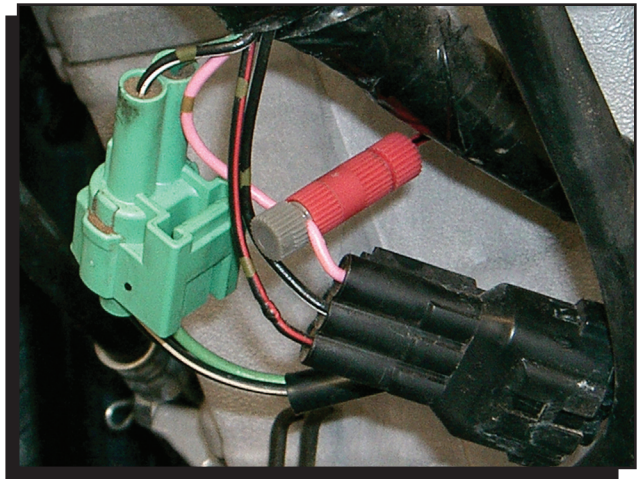

Figure 14 Speed Sensor Splice.
5. Locate the black 3-pin Speed sensor connector on the left side of the bike. Splice the OEM Pink wire with the MSD Red/Black wire using the supplied tap (Figure 14).